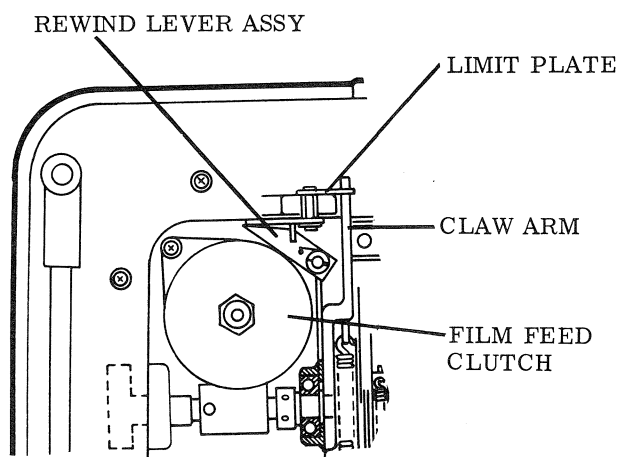

Figure 3-40. REWIND ENGAGEMENT AND FRAMING LIMITS
9. Rewind Engagement and Framing Limits (Figure 3-40)